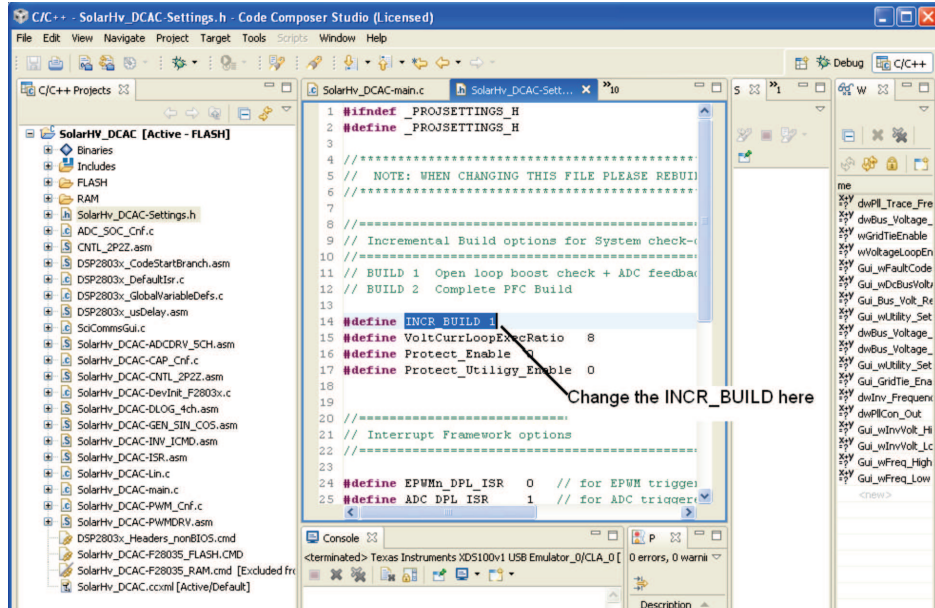

Figure 15. Change the Incremental Build
5. Change the incremental build option by setting a value to INCR_BUILD as shown in Figure 15.